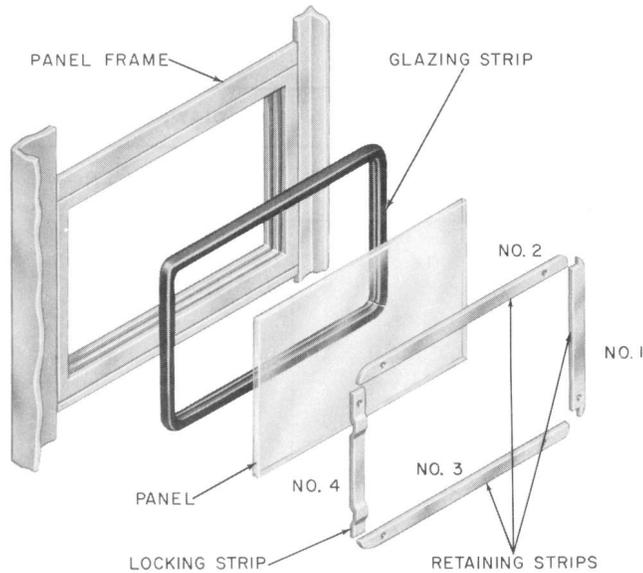

Fig. 5—Assembly of Side or Rear Panels
5.02 Booth panels and signs are held in place by four interlocking retaining strips. They are inserted in sequence as shown in Fig. 5. The No. 4 strip is rippled and is held in place by interface friction. In older booths the No. 4 strip is secured by Allen screws; these strips should be replaced with the rippled strip when replacing signs or panels. Refer to Table C for retaining strips.
- (2) Remove retaining strips No. 2 and No. 3.
- (3) Remove retaining strip No. 1.
- (4) Remove panel and rubber glazing strip.
- (5) Apply rubber glazing strip to replacement panel.
- (6) Insert panel into frame with the beaded edge of glazing strip on the outside and the open joint in lower right corner as viewed from inside.
- (7) Replace retaining strips in sequence as shown in Fig. 5.